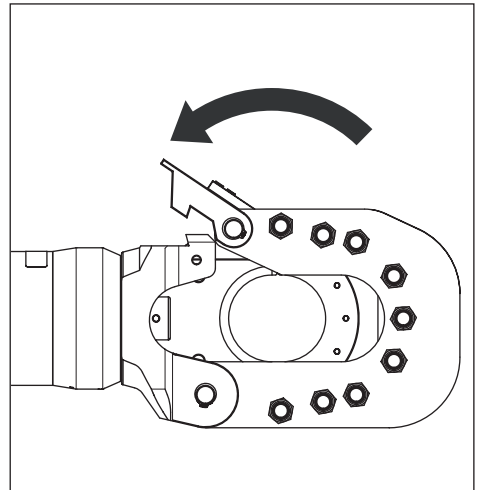

Figure 6, Closing the Cutting Head
**To close the cutting head:** swing the cutting head toward the cutter body. Then, push down on the locking latch to lock the cutting head in place, as shown in Figure 6.